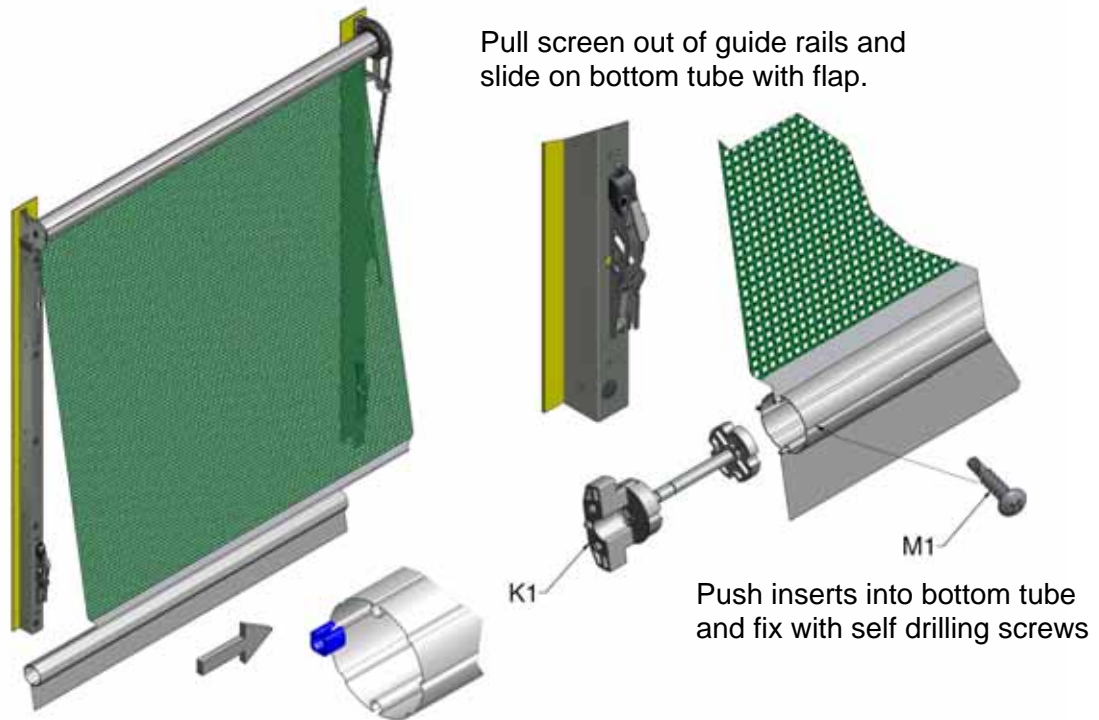
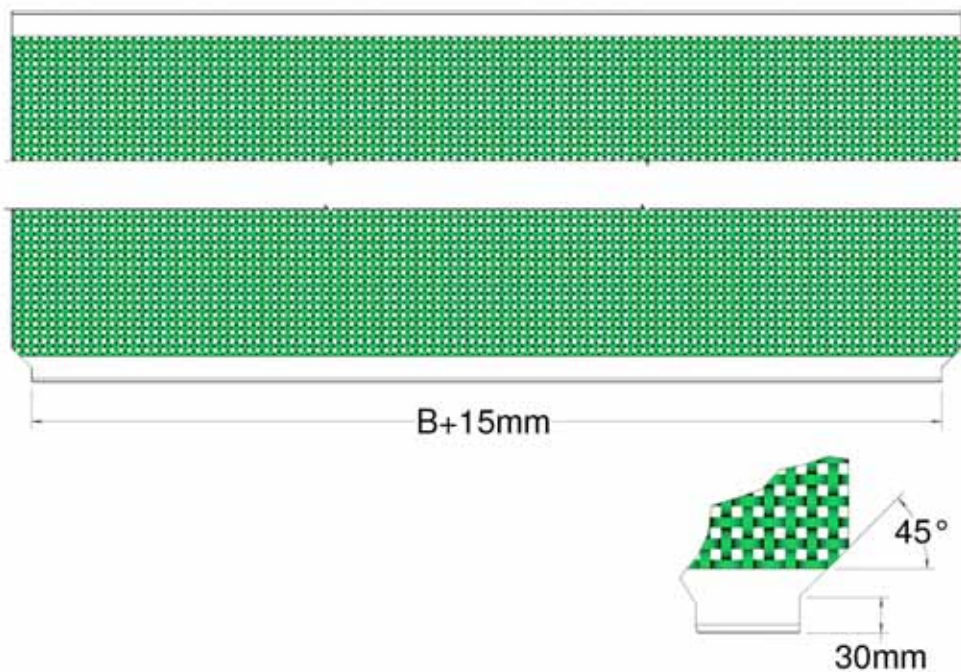

Figure 14a, Attaching Bottom Tube
Figure 14b, Trimming Sheet
- Untie the top tube assembly and lower the door. Pull the fabric outside the guide rails and slide on the bottom tube, Figure 14a, centralise and trim excess fabric as shown in Figure 14b. Push the inserts (K1) into the tube and fix using the M4x19mm self-drilling screws supplied (M1).